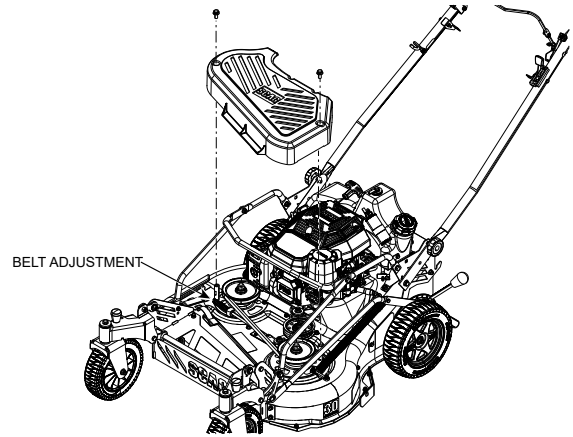

Figure 6-4. Deck Belt Adjustment
3. Adjust the tension by turning the tension rod clockwise or counter clockwise until the spring measures between 2.5" and 2.375". See Figure 6-4.
The mower is designed to bag, mulch or side discharge the grass clippings. During the assembly process at the factory the mower has been set up to bag the grass clippings with grass collection baffles installed. If the mower has been converted to either mulch or side discharge, the grass collection baffles must be reinstalled on the cutter deck prior to bagging the grass clippings. See Figure 6-4 for grass collection baffle location.